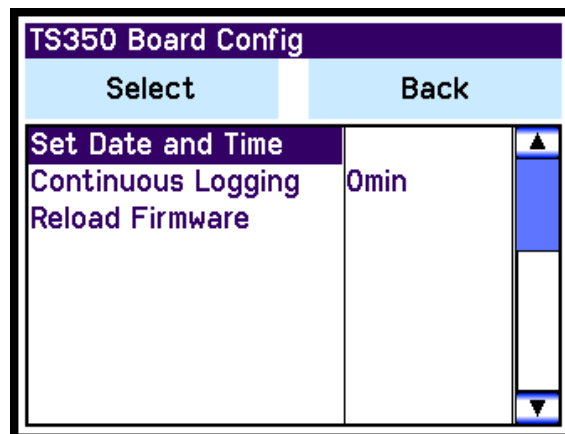

Figure 13
- TS350 Configuration (**Figure 13**)